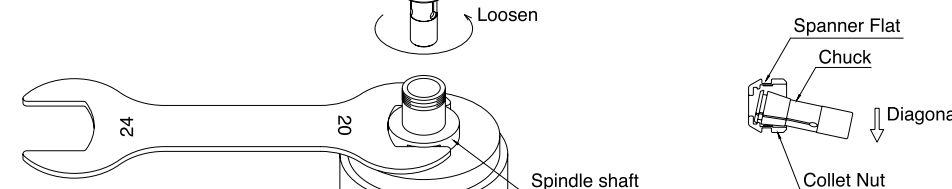

Fig.5
- ② Hold the chuck nut in one hand and push the collet diagonally toward the spanner flat to remove the collet from the chuck nut.(Fig.5)
- ③ The chuck nut can be attached by inserting the new chuck diagonally toward the spanner flat (Fig.5) and pressing straight down.